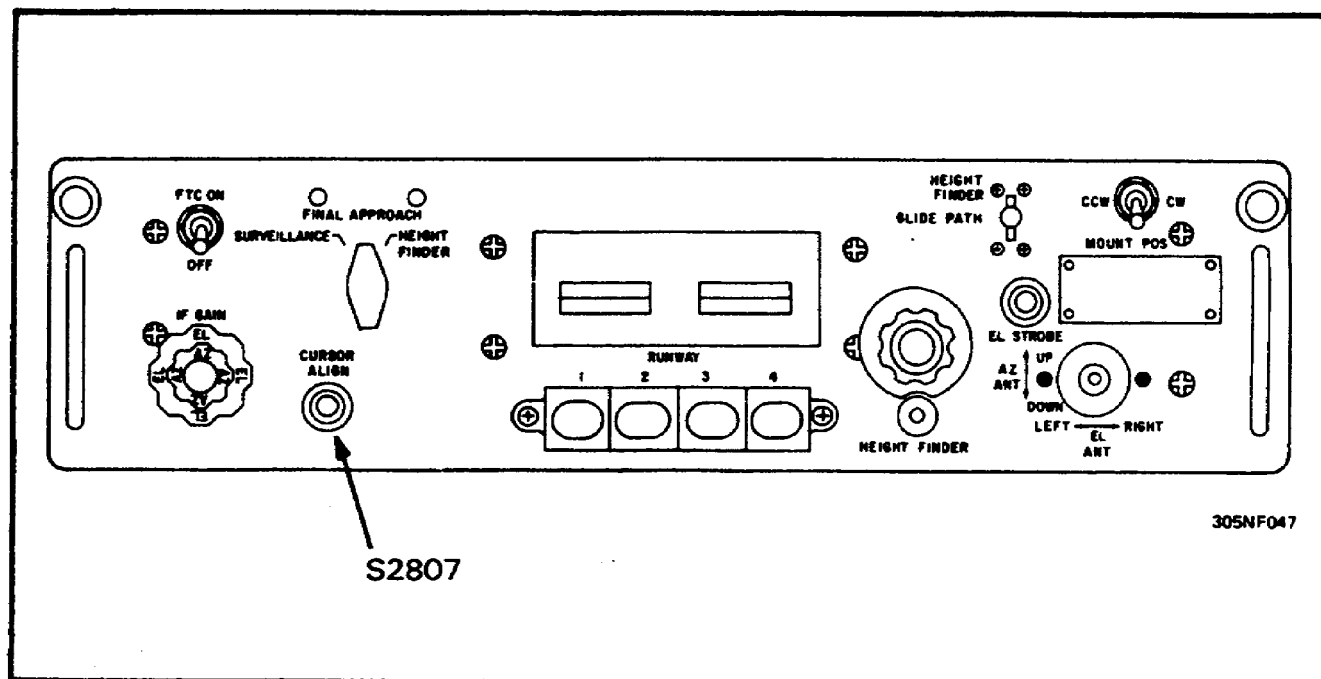

Figure 38. Part of control, radar set C-2074/FPN-33.
p. Depress and hold CURSOR ALIGN switch S2807 on control, radar set C-2074/FPN-33 (Figure 38) and observe the indicator display.